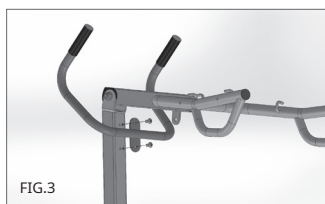

FIG.3
5. Install and secure the column handle with the supplied screws. (Fig.3)